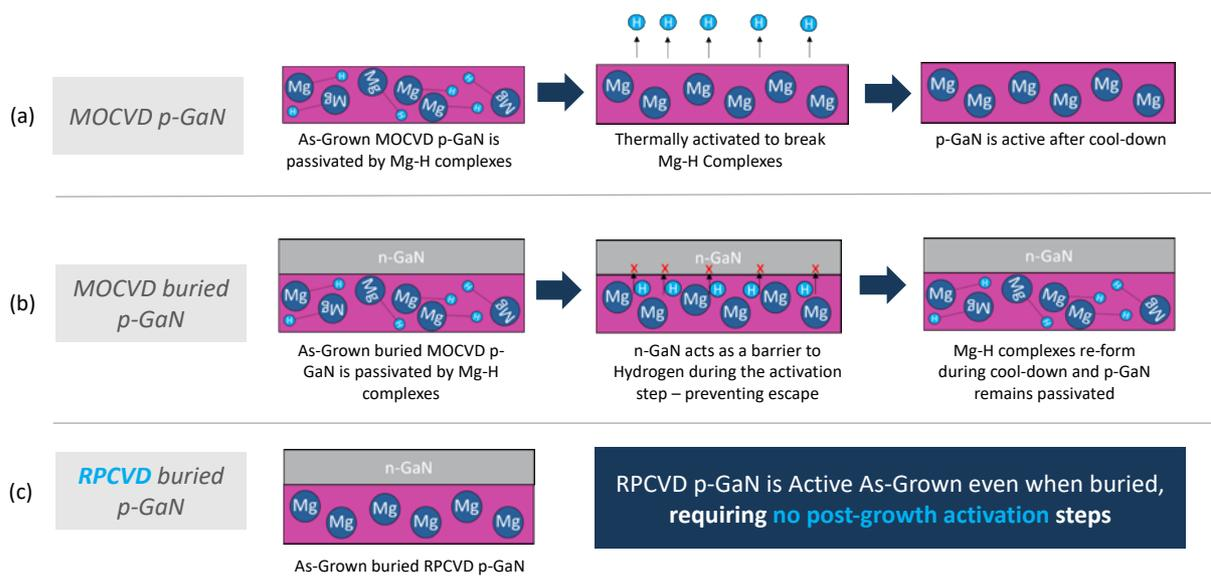

Figure 4 Activation of Magnesium Doping in MOCVD and RPCVD GaN
MOCVD is a very well established, robust processing technology, which boasts excellent uniformity, repeatability and very good device performance. However, GaN MOCVD is a very high temperature process that uses hydrogen-rich ammonia. This limits the scope of its use in multi-layer growth, since the carefully controlled properties of the initial layers can be adversely affected by the high temperature growth and high levels of hydrogen used to grow subsequent layers (Figure 4). This, in turn, leads to a reduction in device performance.
device performance, only ‘active’ Mg will influence device performance. In MOCVD growth, the level of active Mg in GaN is usually controlled by further high temperature process steps (‘thermal activation’) Figure 4(a).
In the case of multilayer MOCVD GaN based structures, the hydrogen rich atmosphere and the high temperature conditions of subsequent MOCVD GaN layer deposition reduces the amount of active Mg (i.e. passivating the p-GaN). This leads to a reduction in device performance. This inherent limitation of MOCVD growth is illustrated in Figure 4 (b) below.
**This means the amount of active Mg can be controlled as grown, and does not need further process steps (see Figure 4 (c))**